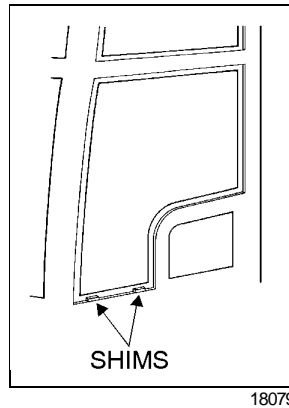

FIGURE 51: ADHESIVE MOUNTED WINDOWS
**Note:** *Use small shims to raise the glass in proper position. Shims can be cut from the tremshield tape. See figure 51.*